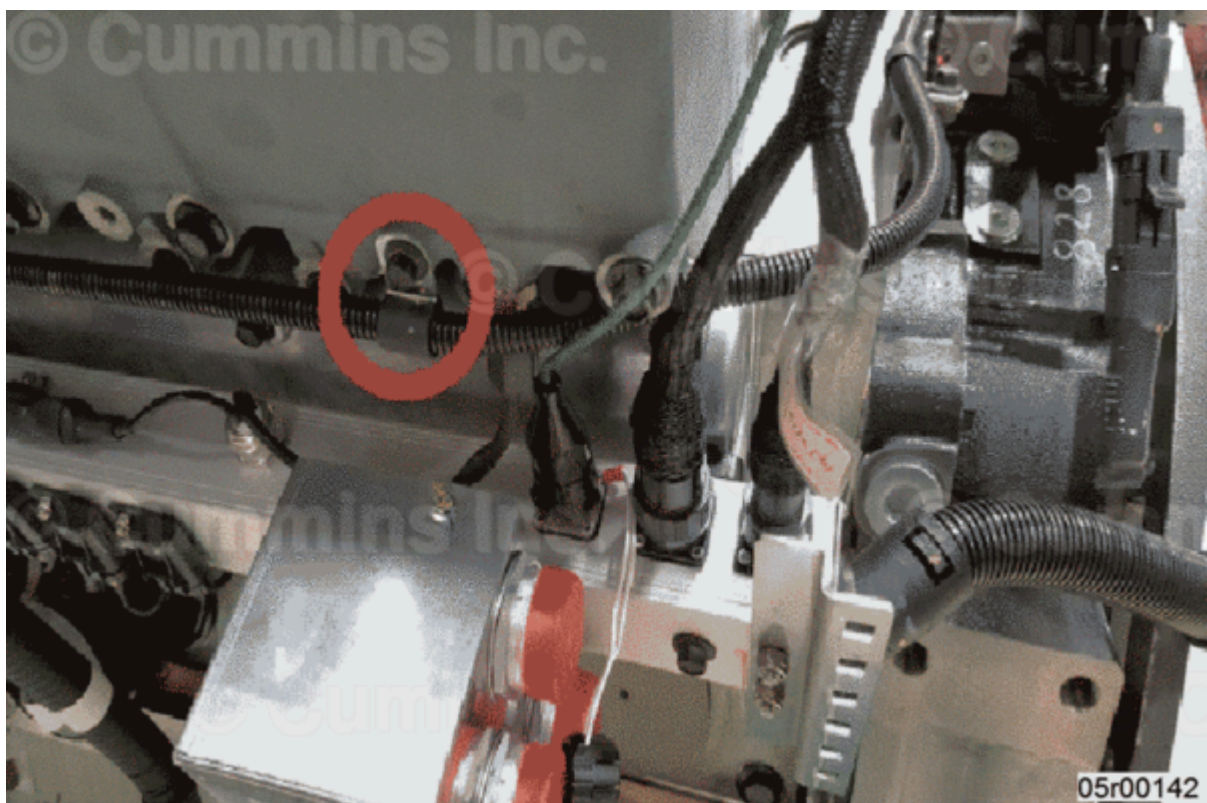

Figure 4, Use Capscrew Part Number 3093923 to Secure Harness.
3. Use capscrew Part Number 3093923 to secure harness. See Figures 4, 5, and 6.